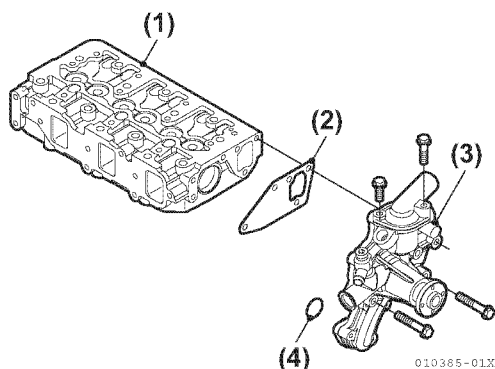

Figure 5-35
29. Remove the freshwater pump and gasket from the cylinder head (**Figure 5-35**).